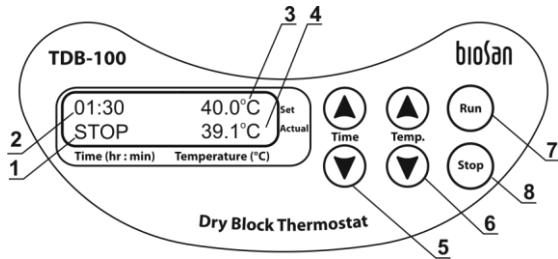
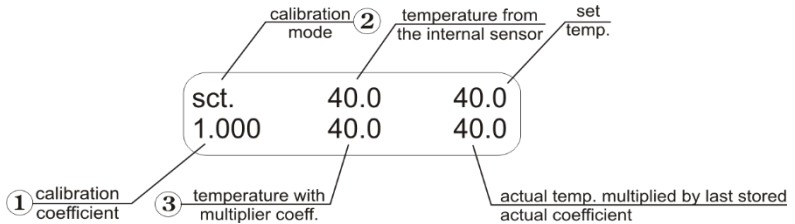
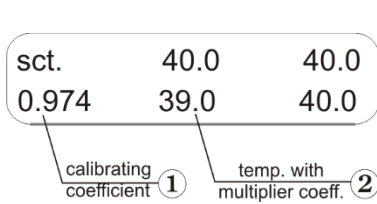

Fig.1 Control panel
Fig.2 Control panel in calibration mode
Fig. 3. Control panel in calibration and operation mode
- 4.3. **Temperature setting.** Use the ▼ and ▲ **Temp.** keys (Fig.1/6) to set the required temperature (Fig.1/3). Pressing the key for more than 2 sec will increase the increment.
- 4.4. The heat block heating. The actual temperature will be shown in the lower line of the display (Fig.1/4).
Use the ▲ and ▼ **Time** keys (Fig.1/5) to set the required sample incubation time in hours and minutes (hr:min). Pressing the key for more than 2 sec will increase the increment. The set time value will be shown in the upper line of the display (Fig. 1/2).
- 4.7. Press the **Run** key (Fig.1/7) to start the timer. The elapsed time will be indicated in the lower line of the display (Fig.1/1).
- 4.8. After the set time interval elapses the timer will give a sound signal and a blinking *STOP* indication will be shown on the display. Press the **Stop** key (Fig.1/8) to stop the signal.
Stopping the timer does not stop the heating/temperature maintenance process. The heating can be stopped by reducing the temperature below 25°C using the ▼ **Temp** key (Fig. 1/6) (OFF indication will be shown on the display, fig.1/3).
- 5.2. To enter the calibration coefficient, hold the **Stop** key (fig. 1/8) pressed for more than 8 s to activate calibration mode. The calibration coefficient will be shown on the display (fig. 2/1).
- 5.3. **Restoring factory settings.** Set 1.000 value using the **▲** and **▼ Temp** keys (fig. 1/6) as shown on Fig. 2/1 to restore the factory settings. Press the **Run** key (fig. 1/7) once to save the changes and exit the calibration mode.
- 5.4.4. Let us assume that the readings of independent sensor is 39°C, but the display's actual temperature is 40°C (fig. 1/4). Then it is necessary to add 1°C correction.
- 5.4.5. Hold **Stop** key (fig. 1/8) pressed for more than 8 s to activate calibration mode. The following parameters will be shown on the display (fig. 2).
- 5.4.6. Using the **Temp ▲** and **▼** keys (fig. 1/6), change the calibration coefficient (fig. 3/1) so that the new temperature value (fig. 3/2) corresponds to the independent sensor temperature. In our example, the calibration coefficient will be 0.974.
- 5.4.7. After finishing the calibration, press the **Run** key (fig. 1/7) once to save the changes and exit the calibration mode.